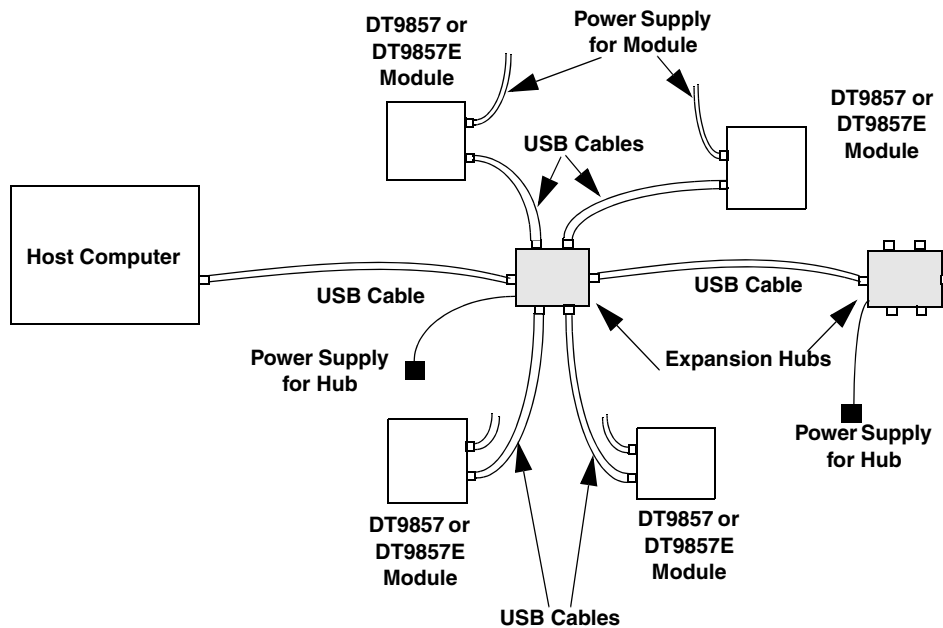

Figure 10: Attaching Multiple DT9857 or DT9857E Modules Using Expansion Hubs
6. Repeat these steps until you have attached the number of expansion hubs and modules that you require. Refer to Figure 10.